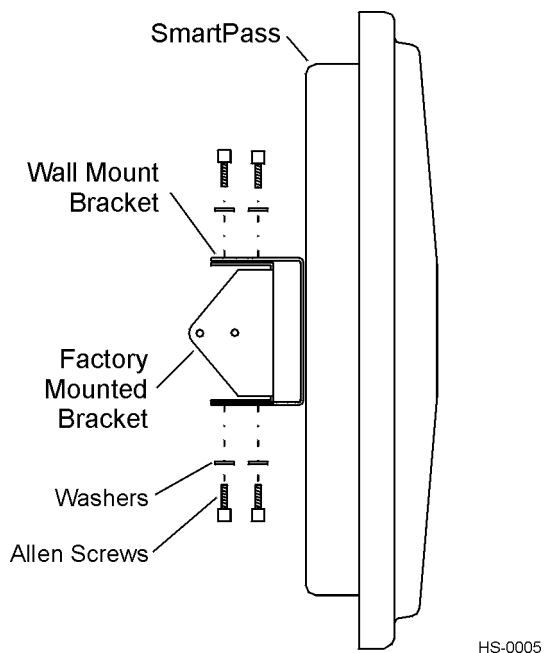

Figure 1-7 Factory Mount Bracket Attached to Wall Mount Bracket
6. Using the four screws and washers supplied with the wall mount bracket, attach the factory mount bracket to the wall mount bracket, lining up the four outside screw holes as shown in Figure 1-7.